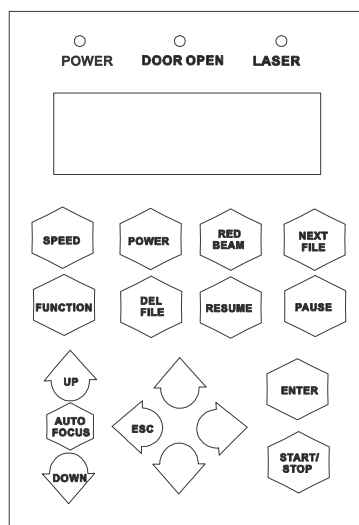

Figure 4 Control Panel for LaserPro Venus
- Control Panel (see Figure 4)